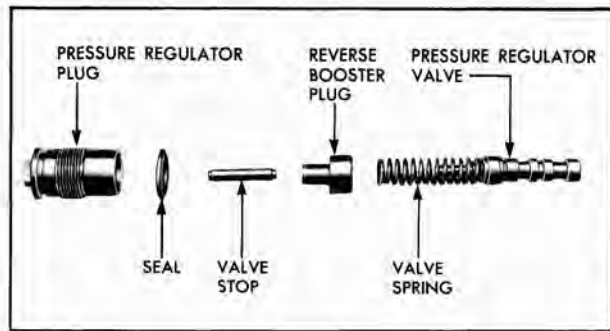

Fig. 144 Pressure Regulator Parts—Exploded
1. Inspect pressure regulator valve (Fig. 144) for nicks or scores and free movement in pump body.
1. Install new "O" ring seal on pressure regulator plug (Fig. 144).